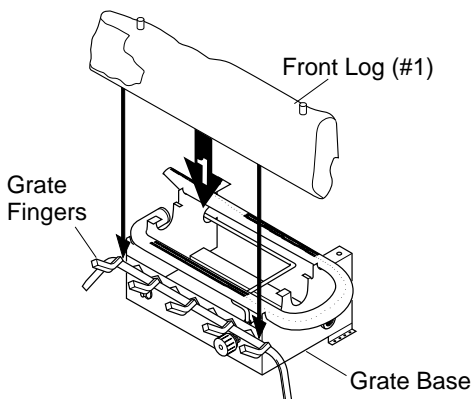

Figure 27 - Installing Front Log (#1)
1. Place the front log (#1) on the grate fingers. Make sure the front log rests firmly between the grate fingers and the grate base (see Figure 27).